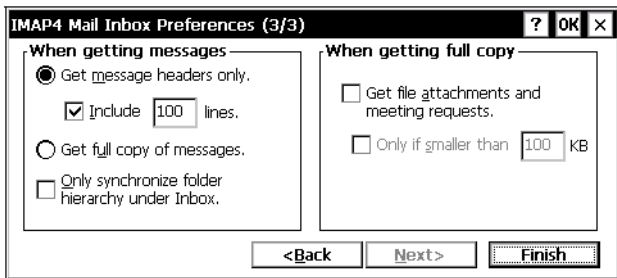

Figure 4-10. Inbox Preference Dialog Box
7. Select and enable any of the optional settings on this screen and click **Next** to display the second dialog box for *Mail General Preferences* (Figure 4-10). Select the following parameters: